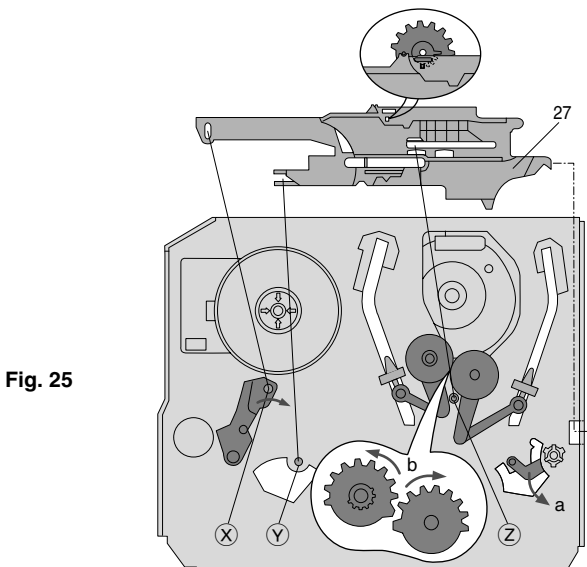

Fig. 25
- Move the levers and gearwheels to their stop positions as shown by the arrows in Fig. 25.
- Put the slider (Pos. 27) on to the shafts  $\text{X}$   $\text{Y}$   $\text{Z}$  as shown in Fig. 25.